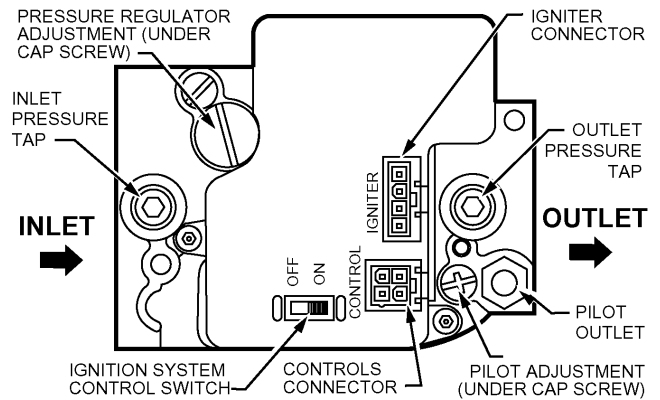

Figure 2 Furnace Gas Control
5. Move the slide switch on the gas control valve to the **OFF** position (See Fig.2).